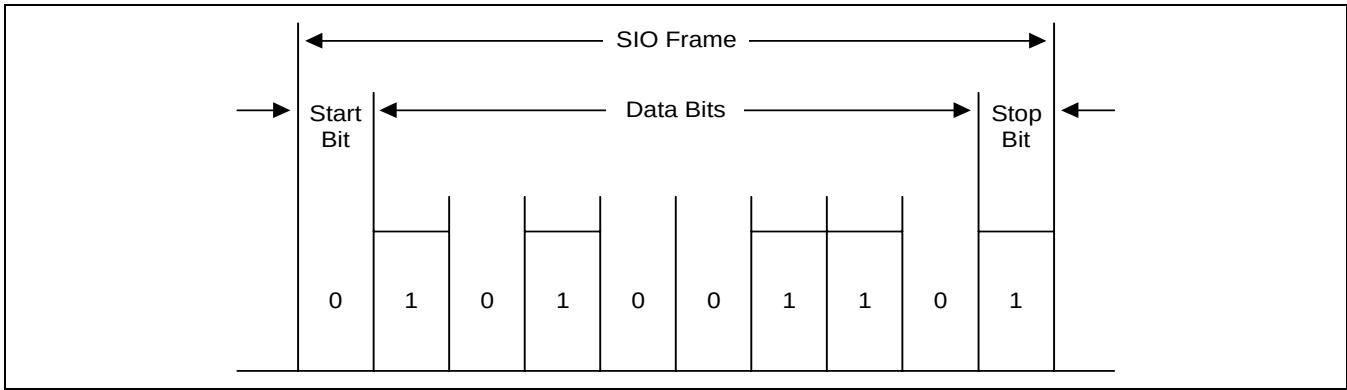

Figure 11-4. Serial I/O Frame Timing Diagram (Normal UART)
The SC32442A UART block supports infrared (IR) transmission and reception, which can be selected by setting the Infrared-mode bit in the UART line control register (ULCONn). Figure 11-4 illustrates how to implement the IR mode.